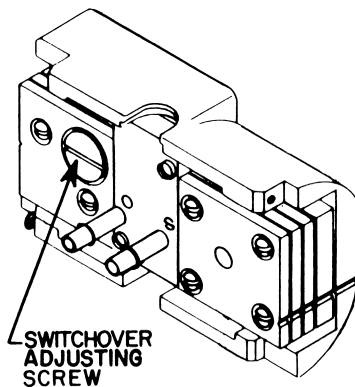

Fig. 1: Back View of Instrument
4. Slowly turn the switchover adjusting screw (see Fig. 1) clockwise to increase or counterclockwise to decrease the switch point. Always adjust the switchover pressure from the low side. **Note: Do not turn the switchover adjusting screw more than three and one half complete revolutions.**